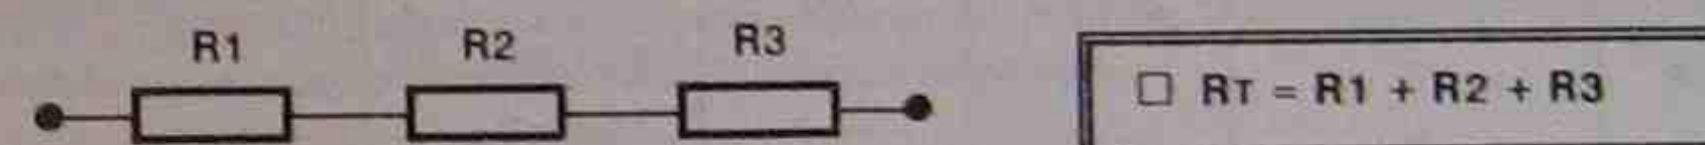

Fig.1: The series resistive circuit
- (a) The Series Circuit: The total resistance of a series circuit equals the sum of the individual resistor values. See Fig.1.